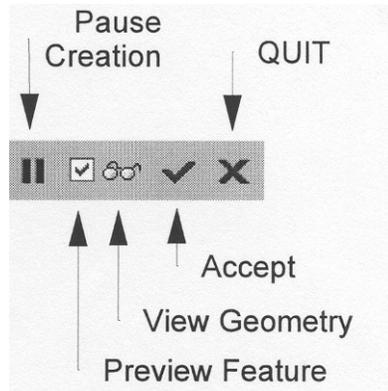

Figure 1.7 Dashboard controls
- Extrude the rectangle to form the solid block. Enter depth value as 1.5 into the depth field of the extrude dashboard (Figure 1.3) and click the Accept tick to finish (Figure 1.7).